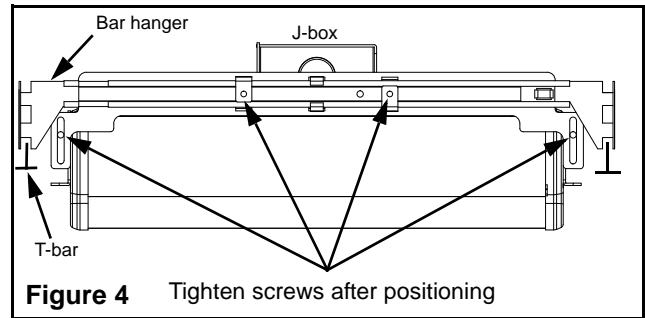
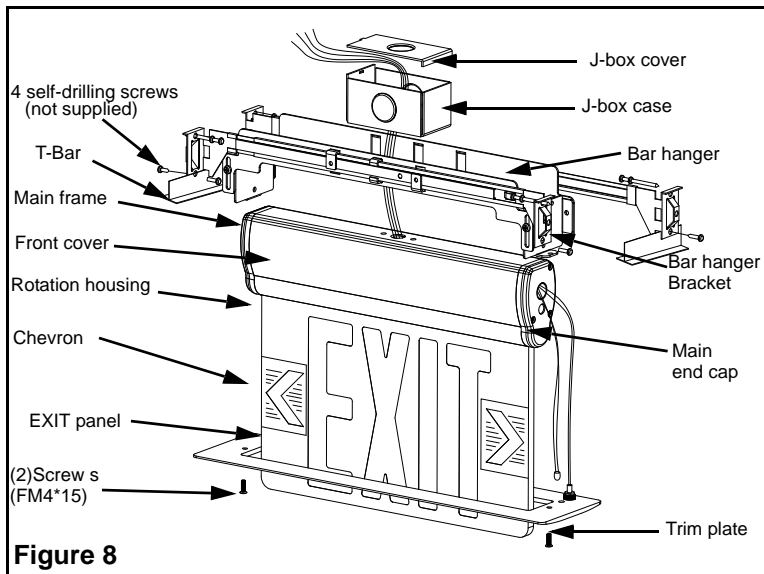

Figure 4 Tighten screws after positioning
Figure 8
1. Refer to assembly drawing before you start installation (see figure 8).
9. Make sure bar hangers are oriented in the correct position. Bar hangers should be level with bottom of T-bar (see figure 4). Note: when mounting onto a T-bar the bar hanger will need to be screwed into the T-bar with 4 self-drilling screw (not supplied) as shown in figure 8.